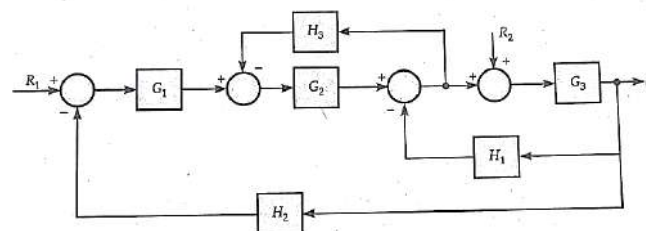

Figure 3
- (c) Reduce block diagram as shown in Figure 3 and obtain transfer function  $C/R_2$ . **07**